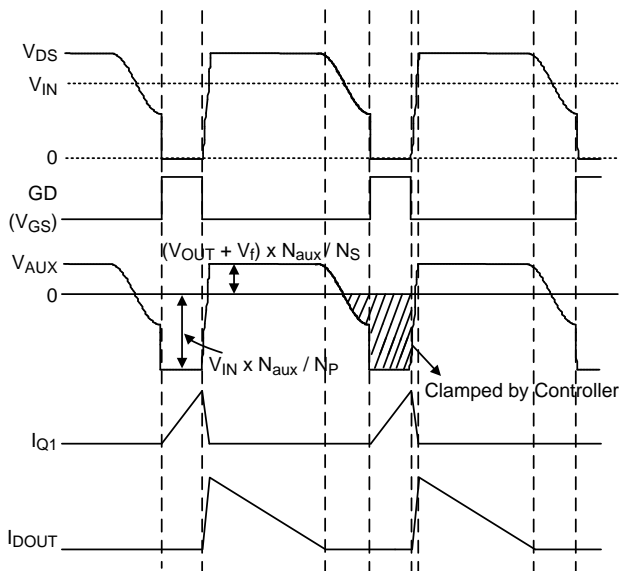

Figure 3. Key Waveforms of a Flyback Converter
The RT7331 needs no shunt regulator and opto-coupler at the secondary side to achieve the output current regulation. Figure 3 shows several key waveforms of a conventional flyback converter in Quasi-Resonant (QR) mode, in which V_{AUX} is the voltage on the auxiliary winding of the transformer.